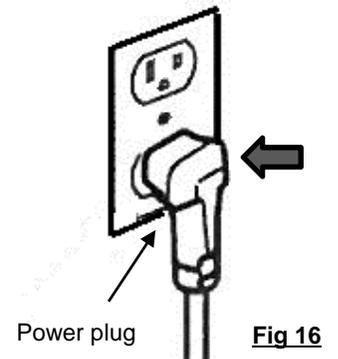

Fig 16
- (II) Connect a power plug to outlet correctly.(Fig 16)